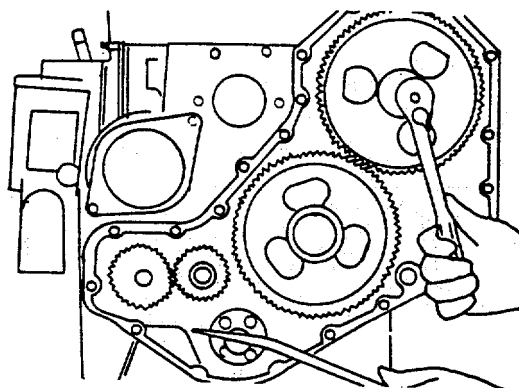

FIGURE 2-29. Fuel Pump Drive Gear Mounting Nut and Lockwasher Removal.
- e. Drive gear must be removed. Remove the mounting nut and lockwasher from the pump drive shaft. (FIGURE 2-29)
- f. Install the pump drive and washer shaft nut. (FIGURE 2-29).